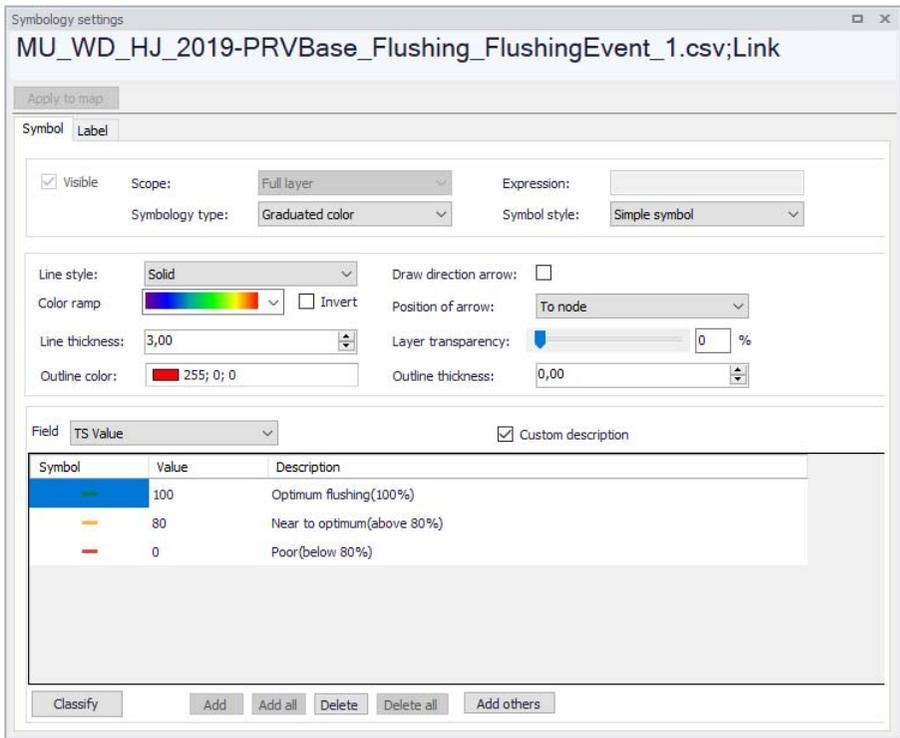

Figure 19.18 The Symbology Settings dialog
- On the Symbols and Layers panel of the result plot, click on a result item layer. This will open the Symbology Settings editor (Figure 19.18). Note that this editor functions similarly as the Edit style dialog from the result map window.